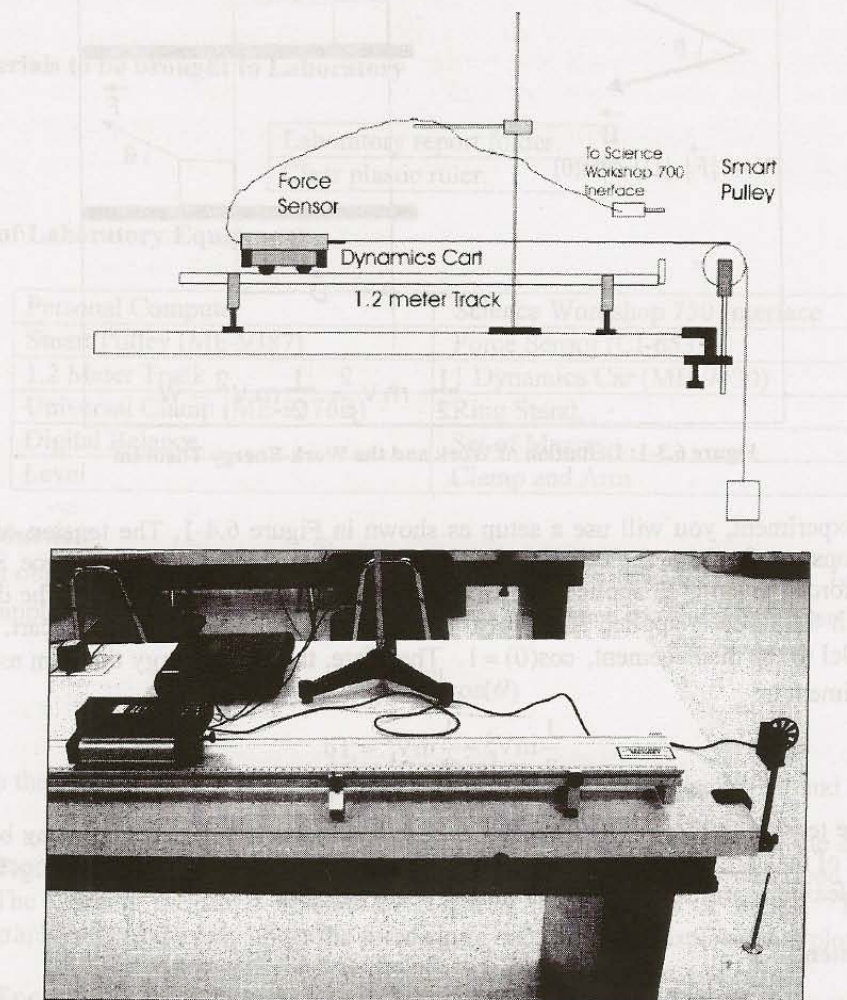

Figure 6.4-1: Work-Energy Apparatus.
For today's experiment, you will use a setup as shown in Figure 6.4-1. The tension of the string provides a constant force to the cart that rolls on the horizontal track. The Force Sensor will measure the force (tension, T) applied to the cart. The Smart Pulley will measure the distance (d) through which the force is applied and is also used to calculate the speed of the cart. Since the force is parallel to the displacement, $\cos(0) = 1$. Therefore, the work energy theorem as applied to today's experiment is:
Your apparatus should look like Figure 6.4-1. Attach the universal clamp to the table and attach the Smart Pulley to the clamp. Level the 1.2 meter track with the level. Insure that the track is level along the length and width. Cut a length of string that is 10 cm longer than the distance from the top of the Smart Pulley to the floor. Weigh the dynamics cart with the Force Sensor attached and record the value. Weigh and record the mass of the mass hanger (the mass hanger is $\sim 50g$). Place the Dynamics Cart on the track (with the Force Sensor attached) and make sure the wheels
- 2) A cart of mass (851.8 ± 0.1) g is configured in a setup as shown in Figure 6.4-1. The tension in the string is 0.36 N and the cart has a displacement of 40.9 cm. Determine the work done by the tension.